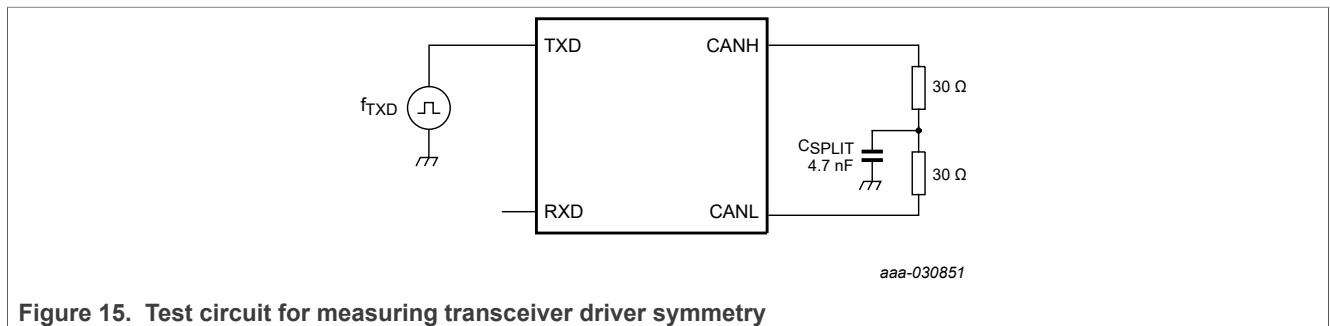

Figure 15. Test circuit for measuring transceiver driver symmetry
- [5] The test circuit used to measure the bus output voltage symmetry and the common-mode voltages (which includes  $C_{\text{SPLIT}}$ ) is shown in Figure 15.